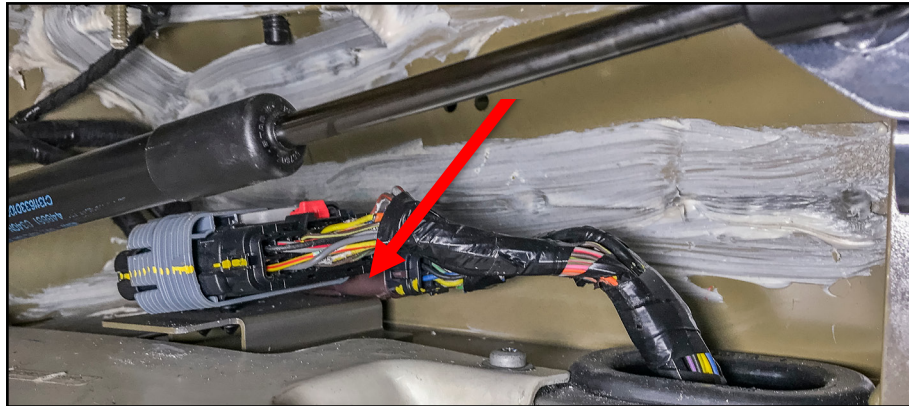
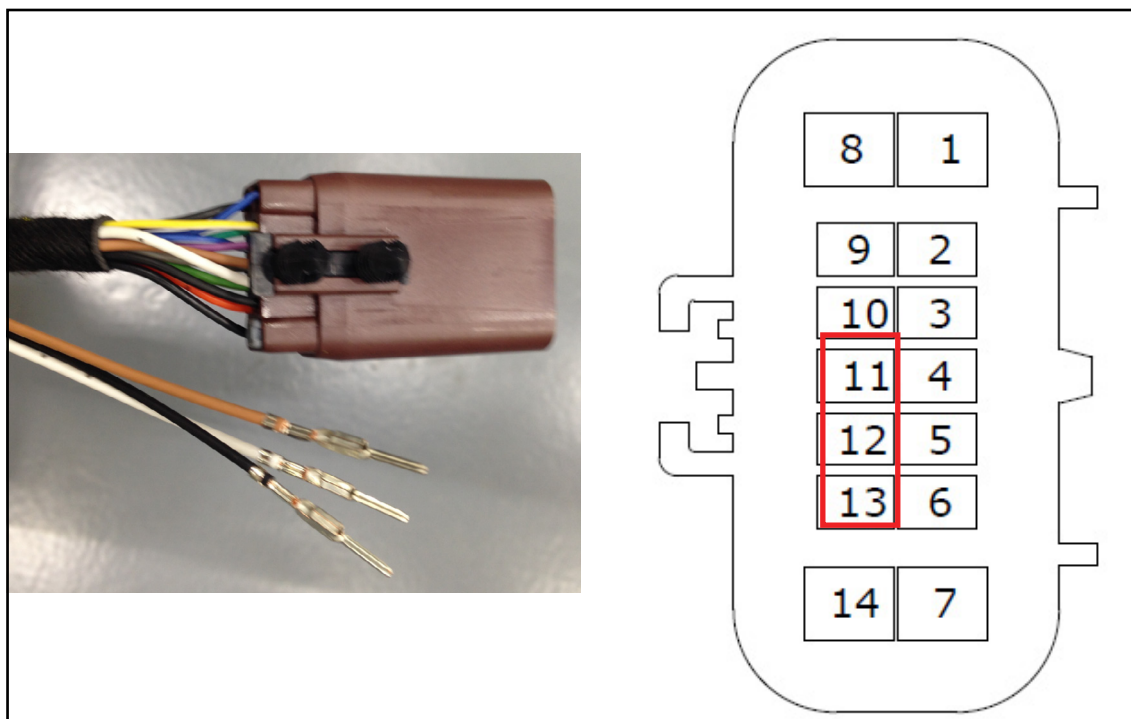

fig. 6a
fig. 6b
3. The Inline Connector C312 is shown here behind the gray one in (fig. 6a). The over lay harness will begin modification here, swapping pins from position 11, 12, 13 as indicated (fig.6b)